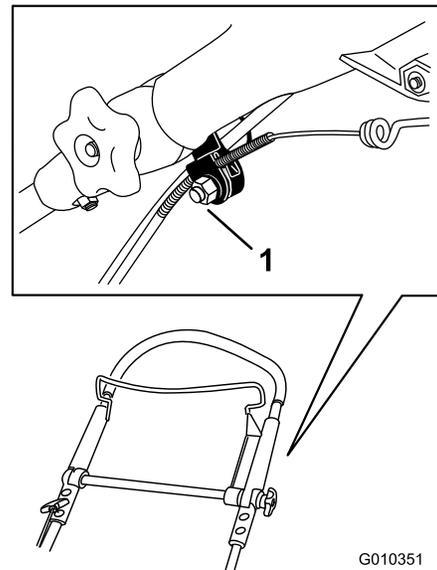

Figure 46
1. Loosen the nut on the cable mount (Figure 46).